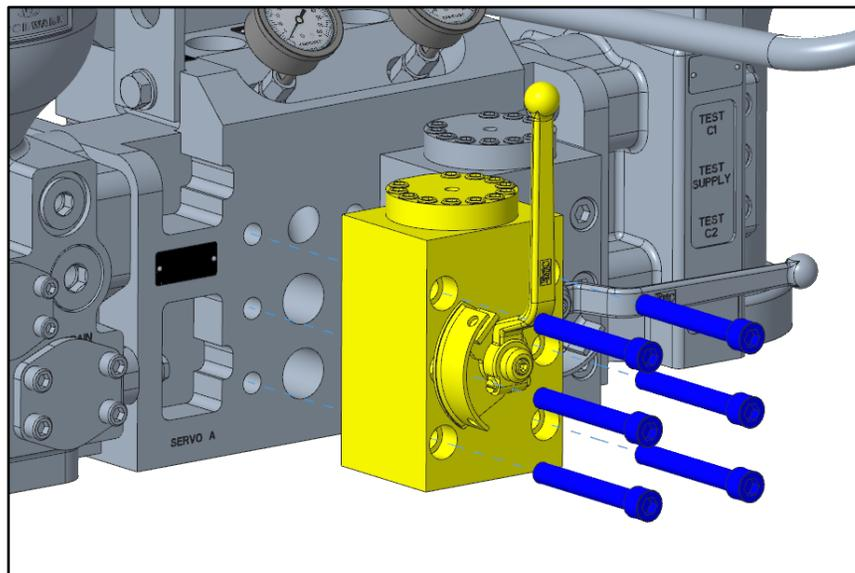

Figure 3-5. Isolation Valve Removal
6. Loosen and remove all six screws using $\frac{1}{2}$ in hex key wrench (Figure 3-5).
7. Remove isolation valve (Figure 3-5).